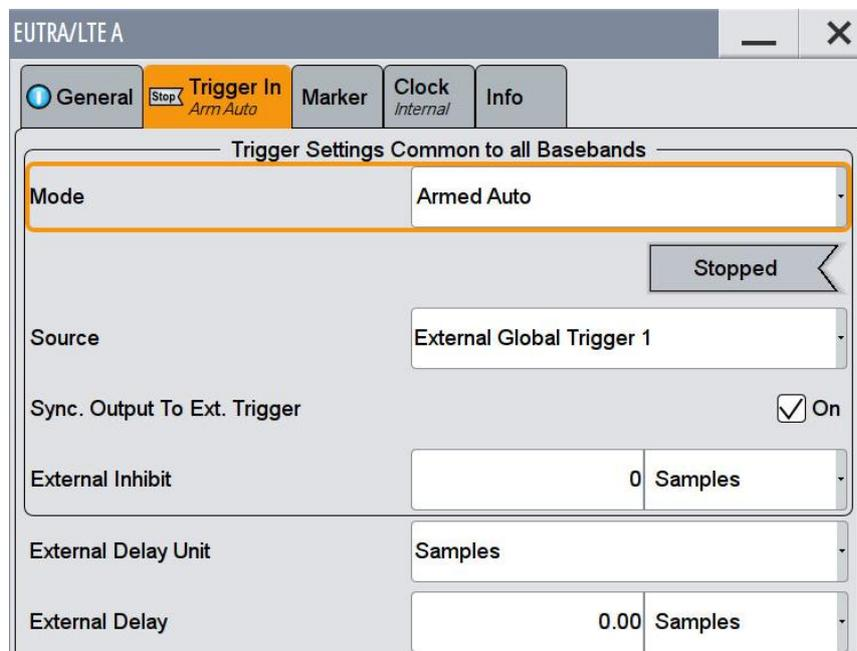

Fig. 3-9: Trigger In settings. The SMW waits for an external trigger signal to align the LTE signal.
- To align the start of the LTE signal to the base station under test, set **Trigger In Mode** to **Armed Auto**. (Fig. 3-9)